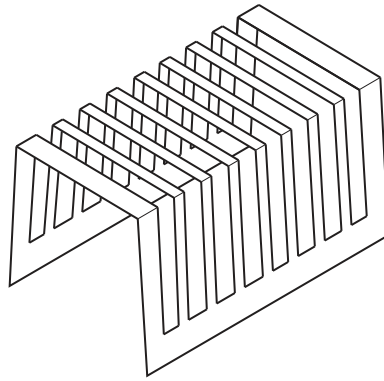

Fig. 4
- 9 Fig. 4 shows a toast rack made from stainless steel.